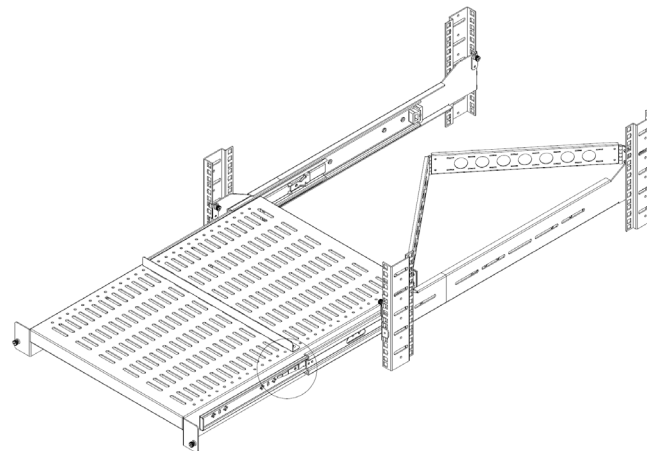

Figure 3
Release Levers x 2 (Not Shown)	• Allows the release of the locking mechanism to retract or remove the Sliding Shelf from the Rails • See Figure 3 in the Installation section
8. To put the **Sliding Shelf** back into position, engage both **Release Levers** (See Figure 3) at the same time and gently **Push** the **Sliding Shelf** back into the **Rack**.